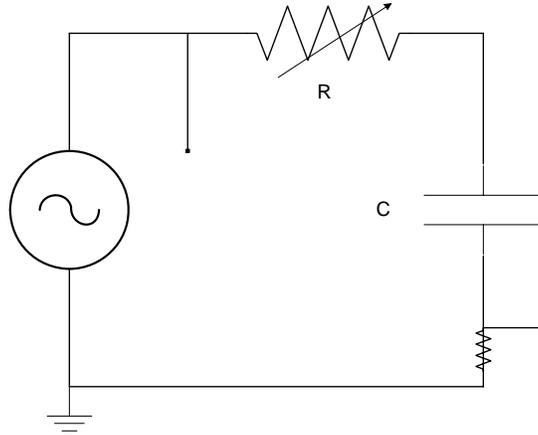

Fig. 1. The experimental RC circuit. C= 10  $\mu$ F.
1. Construct the circuit of Figure 1. Set the signal generator to the sinusoidal mode. Set the frequency to 60 Hz and the amplitude to 10 V.